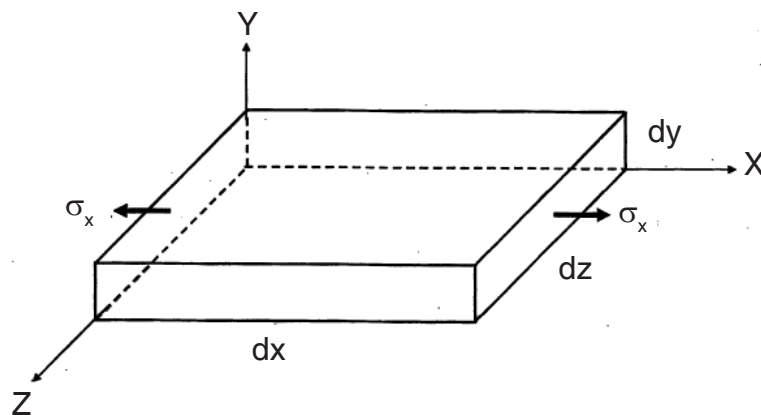

Fig. 2
- Q. 4. Consider an elemental block subjected to uniaxial tension, as shown in Fig. 2. Derive an approximate expression for the change of volume due to this loading. Also comment on the type of change in the volume. 5